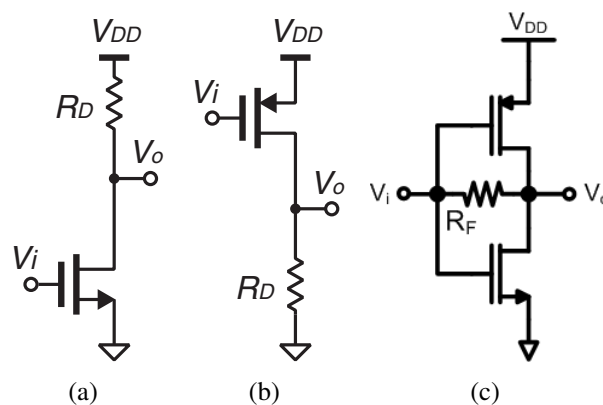

Figure 1: (a) NMOS and (b) PMOS common-source amplifiers with resistive loads. (c) CMOS inverter amplifier with resistive feedback for bias point stabilization.
In this lab, you are going to design, simulate, and implement NMOS- and PMOS-based common-source amplifiers with resistive loads and a CMOS inverter amplifier, as shown in Figure 1. The CMOS inverter is biased for operation as a linear amplifier by connecting a large resistor ($> 300\text{-k}\Omega$) between its input and output. This circuit is becoming very popular in nanoscale CMOS technology as a low-noise, broadband amplifier and as a power amplifier output stage. The three amplifier stages will be designed for different requirements such as gain, linear voltage swing and supply voltage. Note that the vendor does not provide the gate length and gate width of the MOSFETs used in this lab. Therefore, the only design parameters you have available for the MOSFETs is V_{GS} and V_{DS} . You will not be able to determine the current density at which the transistors operate and whether or not the square law applies at each bias current.
1. Find the expressions for the small-signal gain of the NMOS and PMOS common-source amplifiers shown in Figure 1 designed for the maximum output swing with an arbitrary I_D . The gain should be expressed in terms of only V_{DD} and V_{ov} without any numerical values. Assuming that the square law applies and that the transistors are in the active region. Assume that r_o is much larger than R_D and therefore it can be ignored.